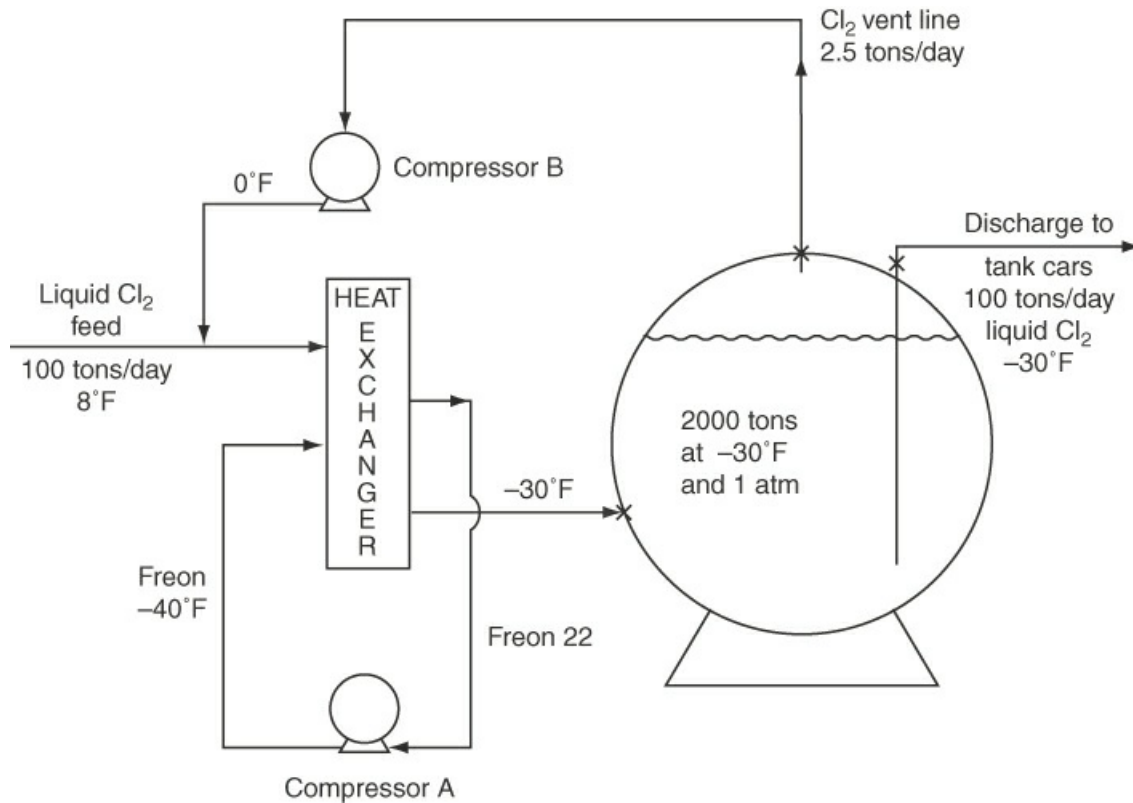

Figure P8.4.31
*****8.4.31** A proposal to store Cl_2 as a liquid at atmospheric pressure was recently in the news. The operation is shown in Figure P8.4.31. The normal boiling point of Cl_2 is -30°F . Vapor formed in the storage tank exits through the vent and is compressed to liquid at 0°F and returned to the feed. The vaporization rate is 2.5 tons/day when the sphere is filled to its capacity and the surrounding air temperature is 80°F . If the compressors are driven by electric motors and are about 30% efficient, what is the horsepower input required to make this process successful? Assume lines and heat exchangers are well insulated. Use $8.1 \text{ Btu}/(\text{lb mol})(^\circ\text{F})$ for the heat capacity of liquid $\Delta H_{\text{vaporization}} = 123.67 \text{ Btu}/\text{lb Cl}_2$.